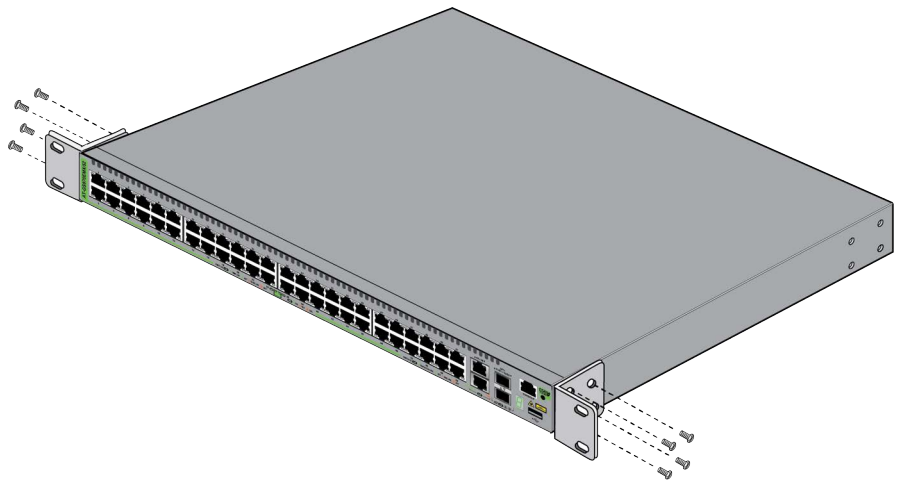

Figure 45. Attaching the Equipment Rack Brackets to the GS970EMX/52 Switch
2. Attach the wall/equipment rack brackets to the sides of the switch in the selected position, with the eight M4x8mm screws included with the switch. Figure 45 shows the brackets installed so that the front of the switch is flush with the front of the equipment rack.